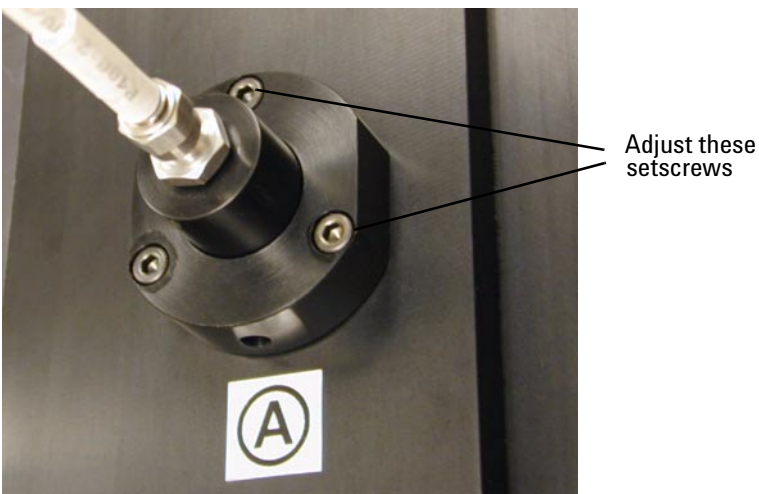

Figure 142 Turn the setscrews to adjust the laser spot location
- Using a 2.5 mm hex driver, carefully adjust the two screws indicated in Figure 142.